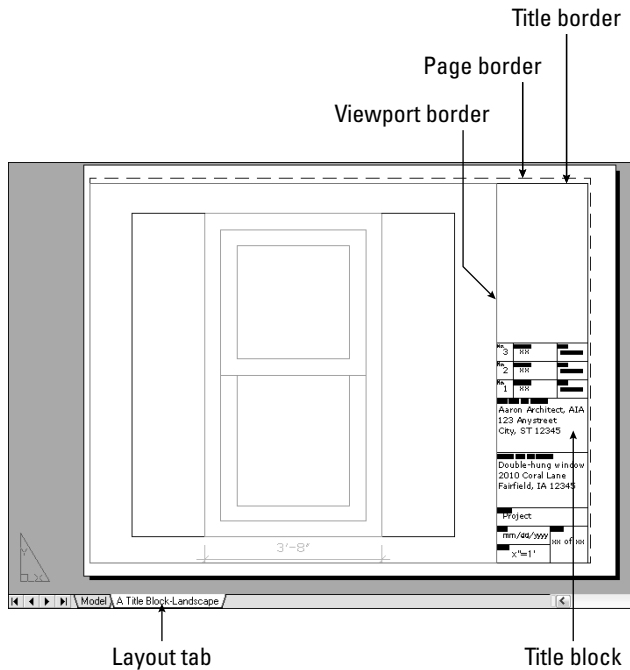

Figure QS-5: The window with a title block as it appears on the Layout tab.
20. To prepare for printing, click the Layout tab, A Title Block-Landscape. You see the window inside a title block and border, as shown in Figure QS-5. This title block and border comes with the template to help you easily prepare the drawing for printing. (Chapter 17 explains how to lay out and print/plot a drawing.)
21. To set the scale for printing, click the magenta viewport border (labeled in Figure QS-5). Choose Tools ⇨ Properties. In the Properties palette, click the Standard Scale item. (To see this item, you may have to scroll down in the Properties palette or enlarge it by dragging on its bottom edge.) Click the down arrow that appears to the right of this item and choose 1"=1'-0". Click the Close button at the top of the Properties palette. (I explain more about scales in Chapter 5.)